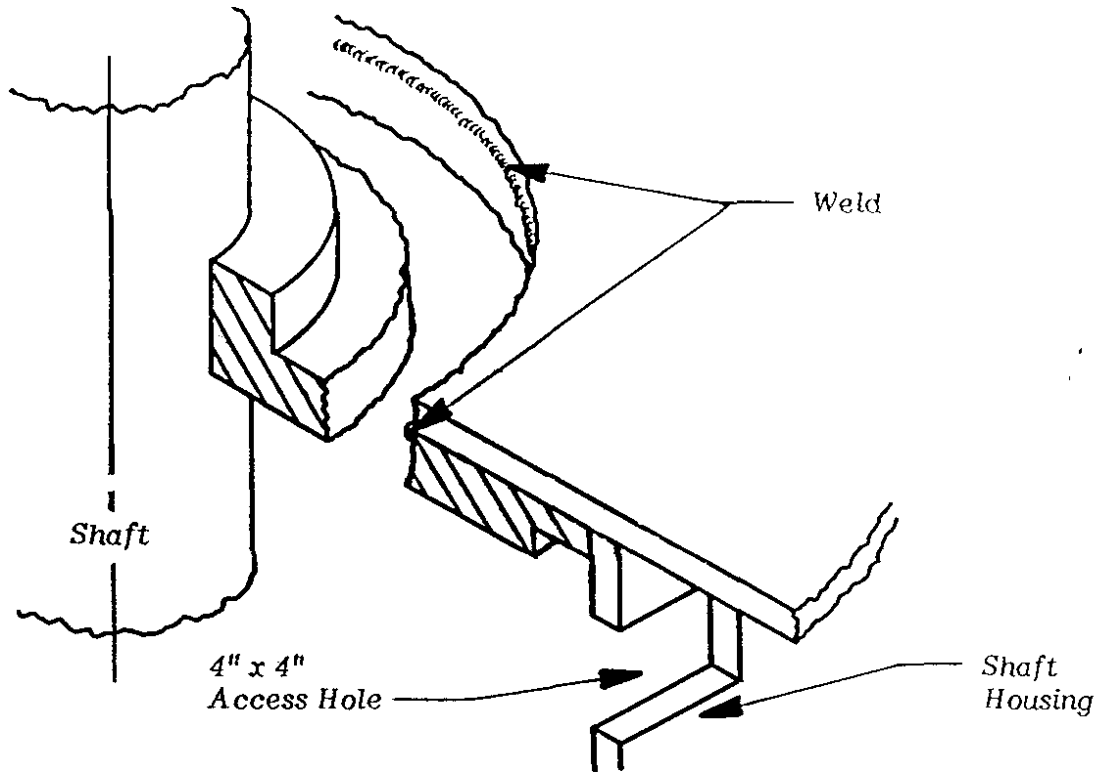

Figure 11
Step 3. Weld as shown (hub to cylinder front) in Figure 11 below. Cut 4" X 4" access holes on all six sides of the shaft housing. These holes are needed to weld the backside of the supplied adapter plate.